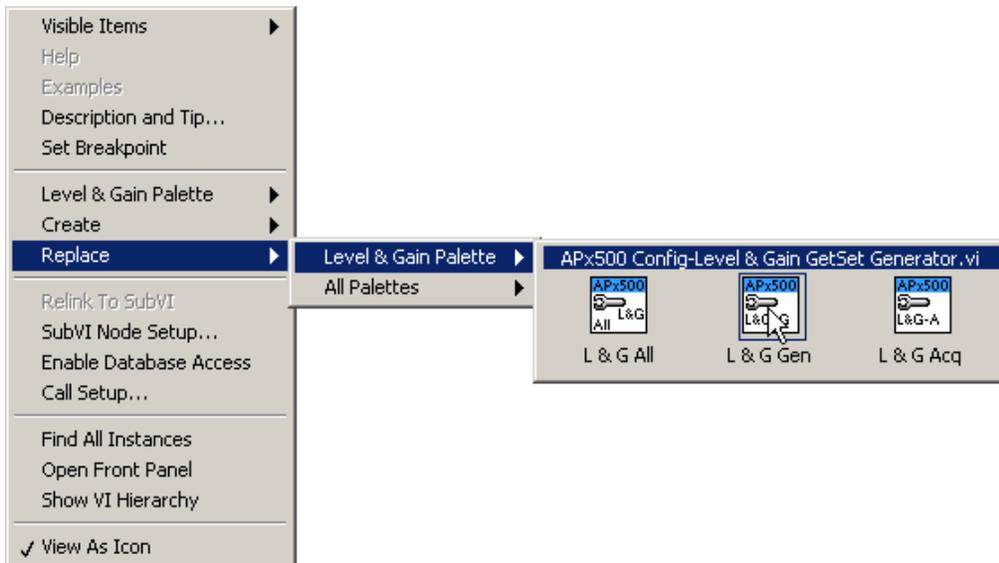

Figure 49
1. Since we are only changing the generator settings, we can use the *Level & Gain GetSet Generator VI* instead of the *GetSet All VI*. Right-click on the *GetSet All VI* on the block diagram, and use the Replace menu to change the VI (Figure 49).